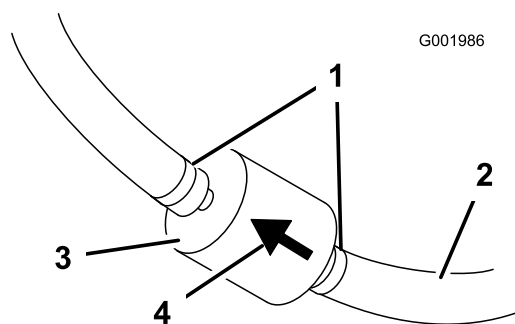

Figure 50
5. Squeeze the ends of the hose clamps together and slide them away from the filter (Figure 50).